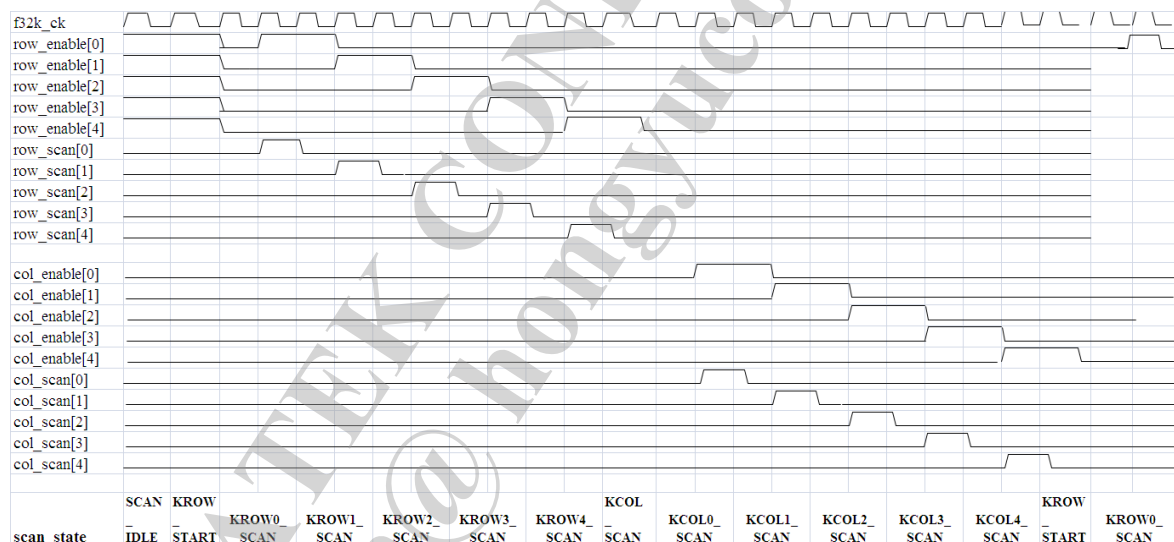

Figure 32. 5*5 extended keypad mode scan waveform
The 5*5 extended keypad mode supports $5*5*2 = 50$ keys matrix and one dedicated power key. The 50 keys are divided into 25 sub groups, and each group consists of 2 keys and a 20Kohm resistor. The power key is connected with PMIC, and PMIC is connected with the PWR_KEY pad of the Baseband chip. Figure 32 shows the scan waveform of the 5*5 extended keypad mode. Besides the limitation of the 8*8 normal keypad mode, the 5*5 extended keypad mode has another limitation which is it cannot detect two keys pressed simultaneously when the two keys are in one group, i.e. the 5*5 extended keypad mode cannot detect key0 and key1 pressed simultaneously or key16 and key17 pressed simultaneously.